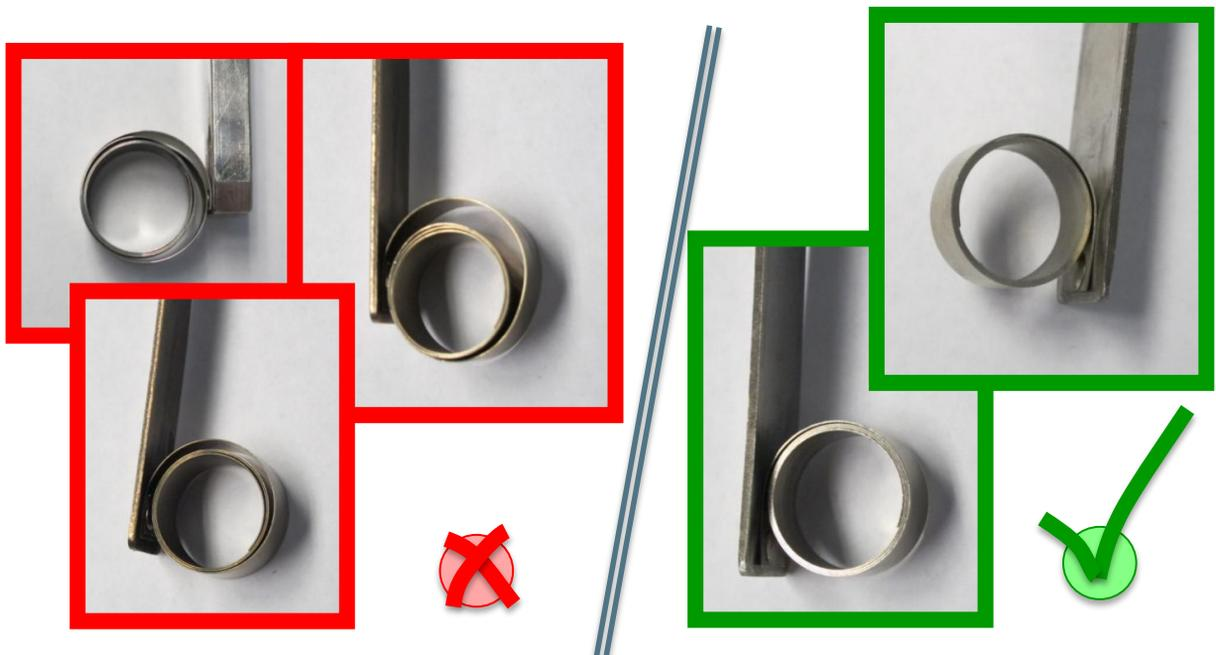

Figure 14 - Visual check for spring condition
- Checking Brush Spring pressures and springs for lost tension. Recommended pressure on brushes is 3-6 PSI for optimized wear patterns. Springs can be checked visually or by using a fish scale. Uncoiled springs as shown below in Figure 14 will result in improper brush wear patterns. Springs should sit centered on the brush for optimum operation and pressure delivery on top of brush.